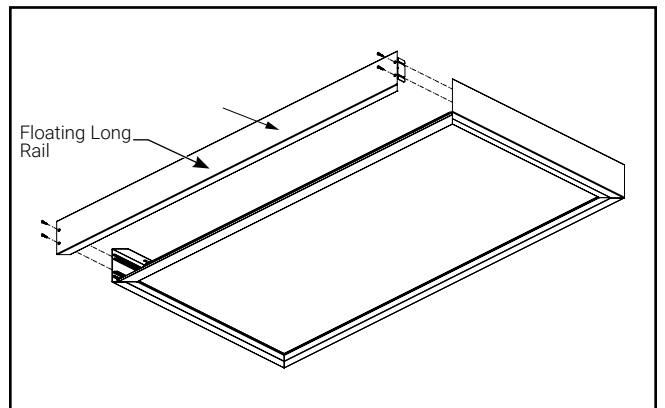

Figure 11.
- A11. Reinstall the floating long rail, L-brackets and screws, and affix the included labels to the floating long rail next to each pair of screws. (Figures 11 and 12.)